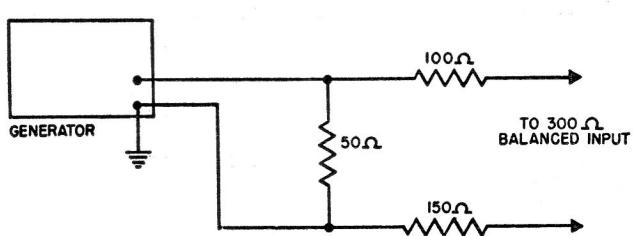

Figure 3
A pad that will work well with most generators may be made using CARBON resistors as shown in Fig. 3.
5. Feed sweep generator into antenna terminals, sweeping channel 12. Use pad illustrated in Fig 3 if necessary.